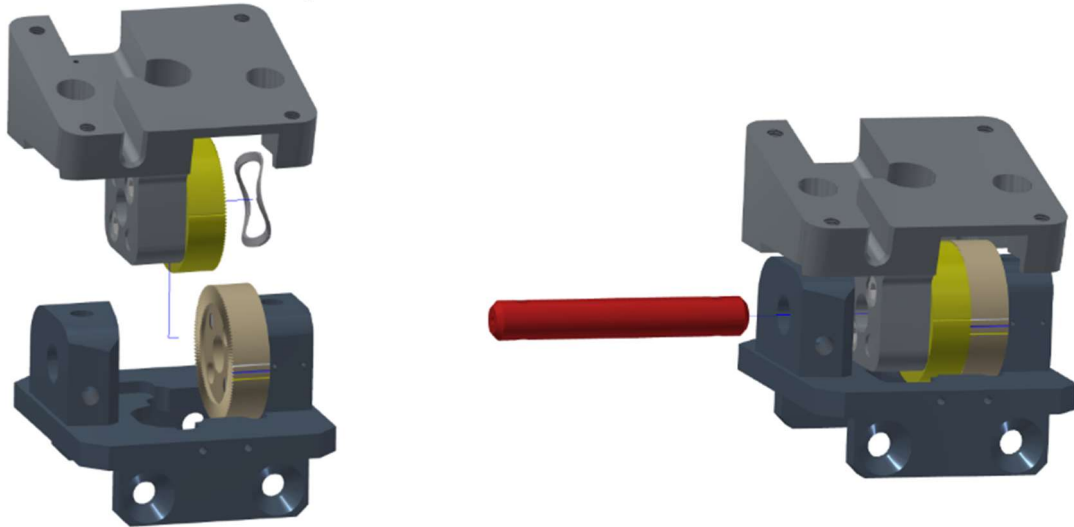
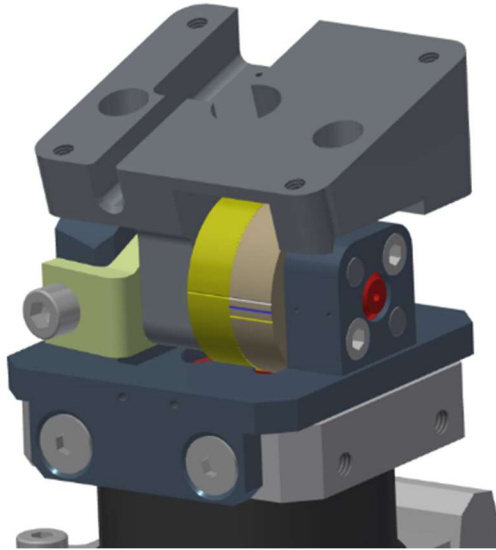

Figure 6-50. Align gears and install pivot pin (474-3057) into neck posture adjustment assembly (474-3050)
Figure 6-54. Neck pitch mechanism at “neutral” setting
- 6.3.19 Assemble the top and bottom plates together with a nested wave washer between the two gears. Align the indicator lines on each star pattern part to the desired position (the standard position is set to “neutral as shown in Figure 6-54). Be certain that the gears properly mate together so as not to damage the parts. Insert the Neck Adjustment Pivot Pin (474-3057) through the gears (Figure 6-50).
- 6.3.23 Figure 6-54 below shows the neck pitch mechanism set to “neutral.”